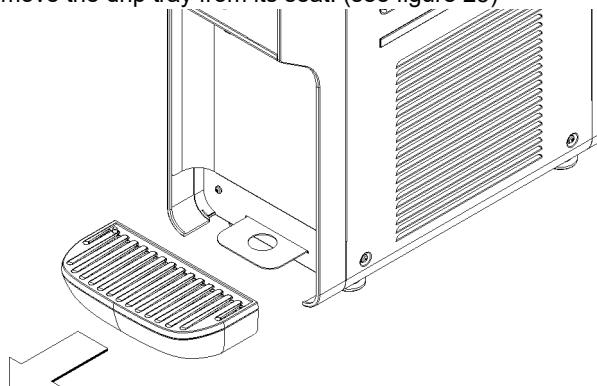

figure 25
- 10** Remove the drip tray from its seat. (see figure 25)